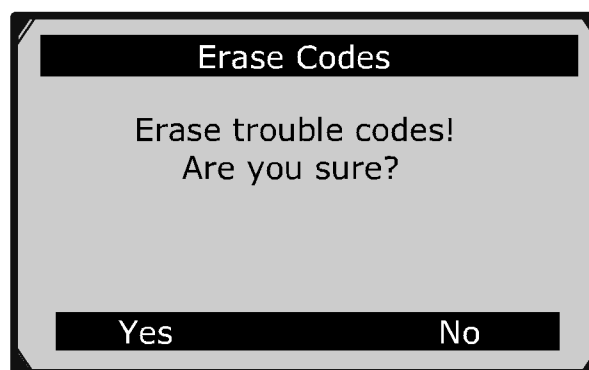

Figure 6.6
- 2) A warning message comes up asking for your confirmation. (Figure 6.6)